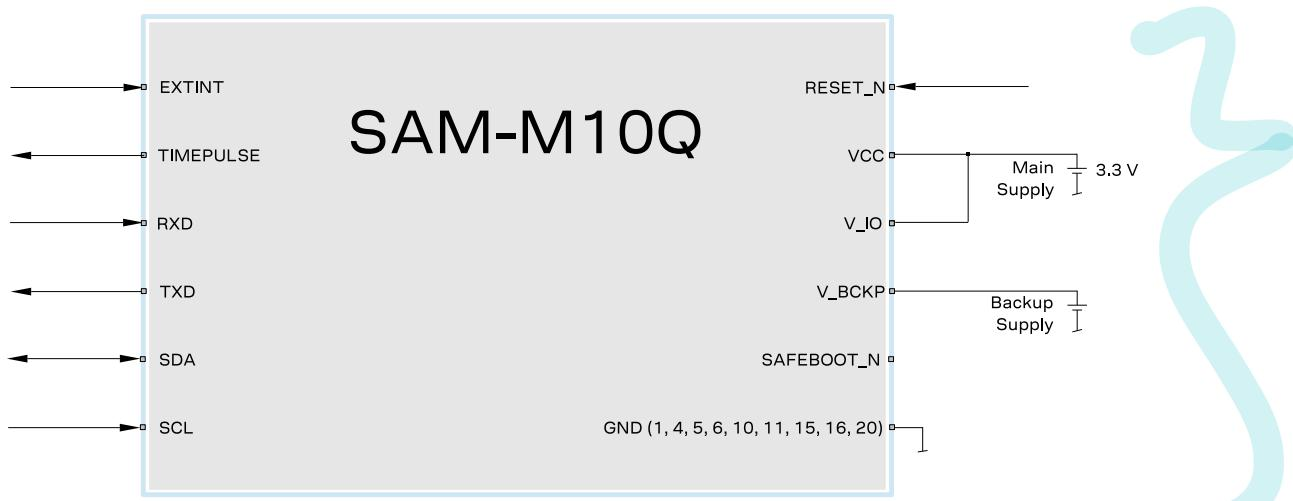

Figure 28: Typical design
- VCC and V_IO are connected together to a single supply as shown in Figure 28.